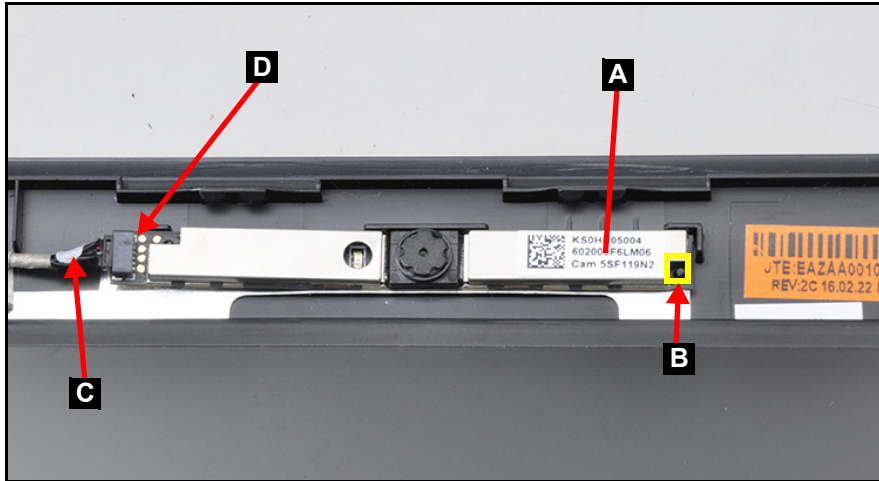

Figure 3-83. Replacing the Camera Module
1. Place the camera module (A) to its compartment on the LCD cover and secure it in place with adhesives. Make sure that the aperture on the camera module is aligned with the stud (B) located on the LCD cover (Figure 3-83).
2. Connect the camera cable (C) to the camera connector (D) (Figure 3-83).